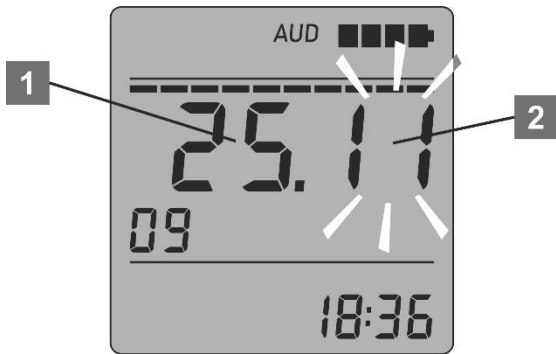

Figure 24 – LCD of the dosimeter
A short press of the MODE button fixes a new value of year in the dosimeter memory. The new value of year blinks three times on the LCD of the dosimeter to show that it has been fixed. The date (1) and month (2) are then displayed on the LCD (Figure 24). When the month digits are blinking, it means that their values can be programmed. They are programmed with the help of the THRESHOLD button in a similar way to the minute digits programming.